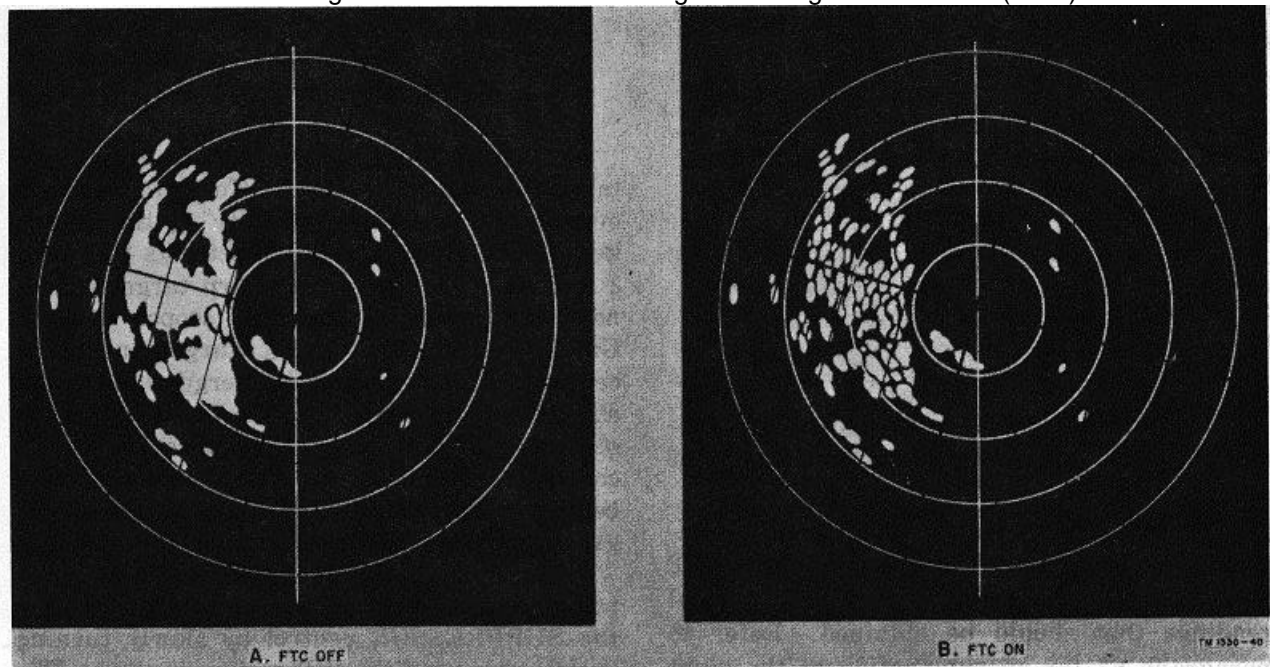

Figure 61. PPI presentation with FTC SWITCH off and ON.
g. **FTC Operation.** The FTC switch is set to the ON position whenever heavy rain or snow clutters the scope, when viewing large masses of land and coastlines, and under some conditions of sea return. When the switch is ON, large blocks of echoes on the scope will be broken up, allowing objects to be seen through the clutter (B. fig. 61).